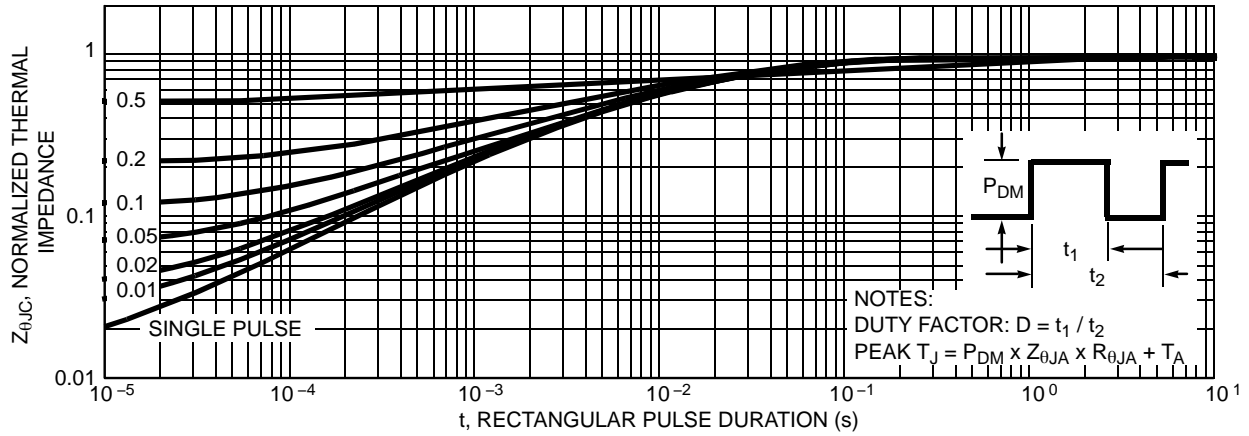

Figure 3. Normalized Maximum Transient Thermal Impedance
3. Repetitive Rating: Pulse Width limited by max junction temperature. See Transient Thermal Impedance Curve (Figure 3) and Peak Current Capability Curve (Figure 5).